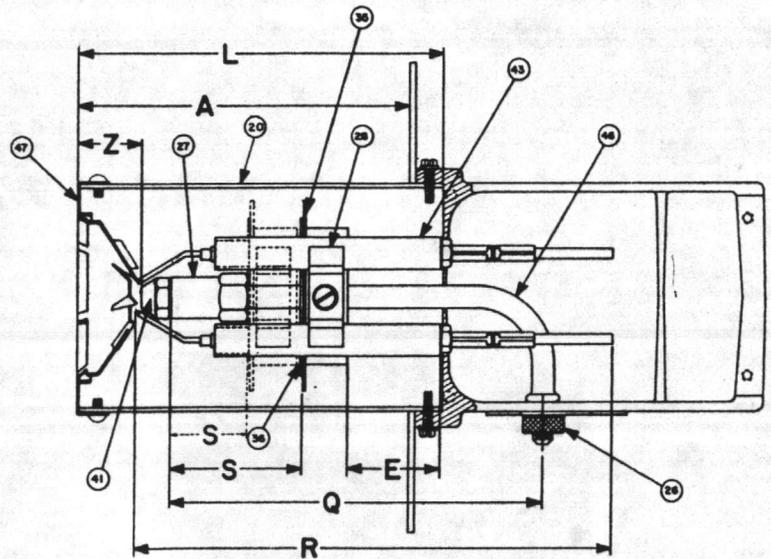

FIG. 3
4. Insert 'nozzle line electrode assembly' into tube using the "Z" dimension shown in FIG. 3 to position the assembly. To install long assemblies (over 9"), rotate the assembly 180° from installed position, partially insert into tube and rotate back.